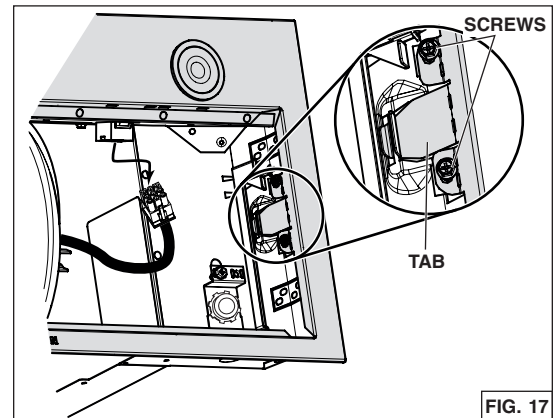

FIG. 17
5. Unplug the blower cable from its connector on faceplate. Disassemble the faceplate from the unit by removing its 4 retaining screws (two per side) and disengaging its retaining tab (one per side) from the unit shell (FIG. 17). Set aside the faceplate along with its screws.